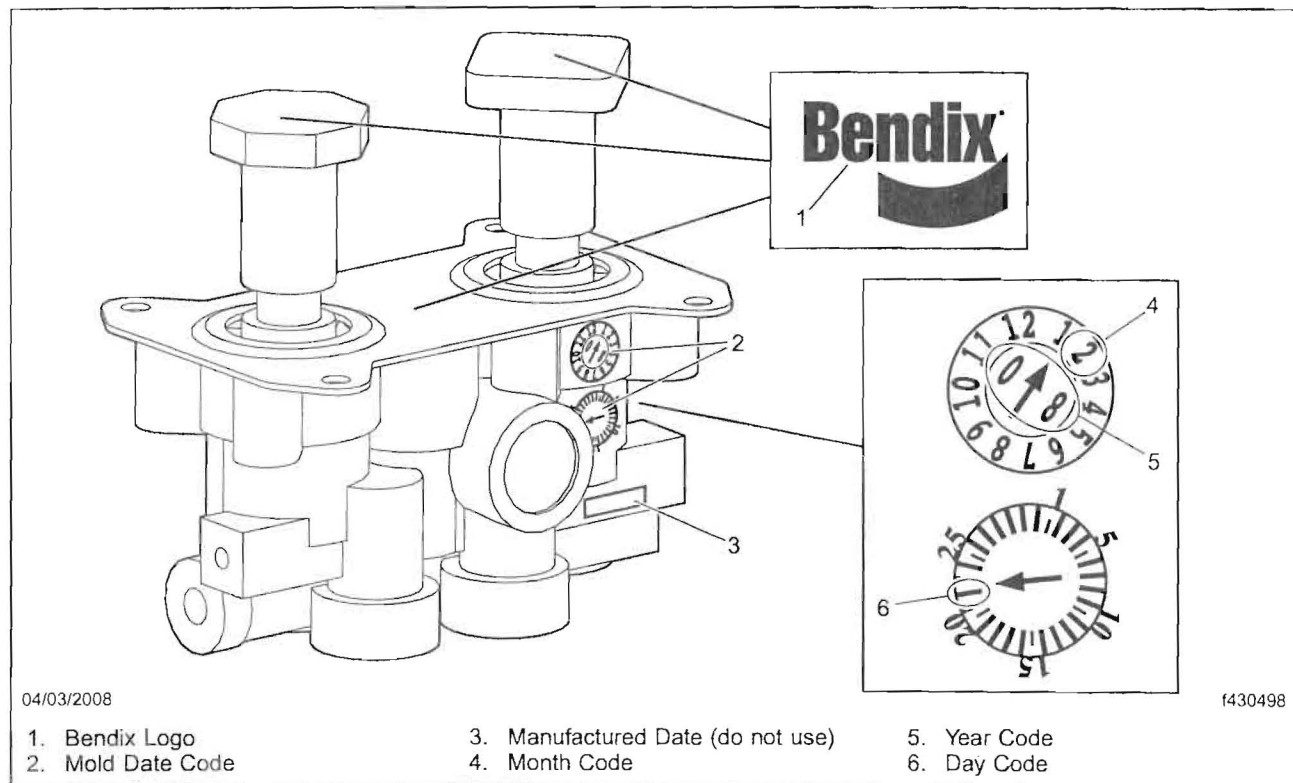

Fig. 3, Bendix MV-3 Valve Identification
5. Verify that the dash control valve is a Bendix MV-3 valve. Look for the presence of the Bendix logo. See Fig. 3. If the valve is a Bendix MV-3, continue to the next step. If the valve is not a Bendix MV-3, no further work is needed. Install the removed items, write the recall number, FL528, on a completion sticker and attach it to the base label.
7. Verify that the dash control valve is a Bendix MV-3 valve. Look for the presence of the Bendix logo. See Fig. 3. If the valve is a Bendix MV-3, continue to the next step. If the valve is not a Bendix MV-3, no further work is needed. Install the removed items, write the recall number, FL528, on a completion sticker and attach it to the base label.
5. Verify that the dash control valve is a Bendix MV-3 valve. Look for the presence of the Bendix logo. See **Fig. 3**. If the valve is a Bendix MV-3, continue to the next step. If the valve is not a Bendix MV-3, no further work is needed. Install the removed items, write the recall number, FL528, on a completion sticker and attach it to the base label.